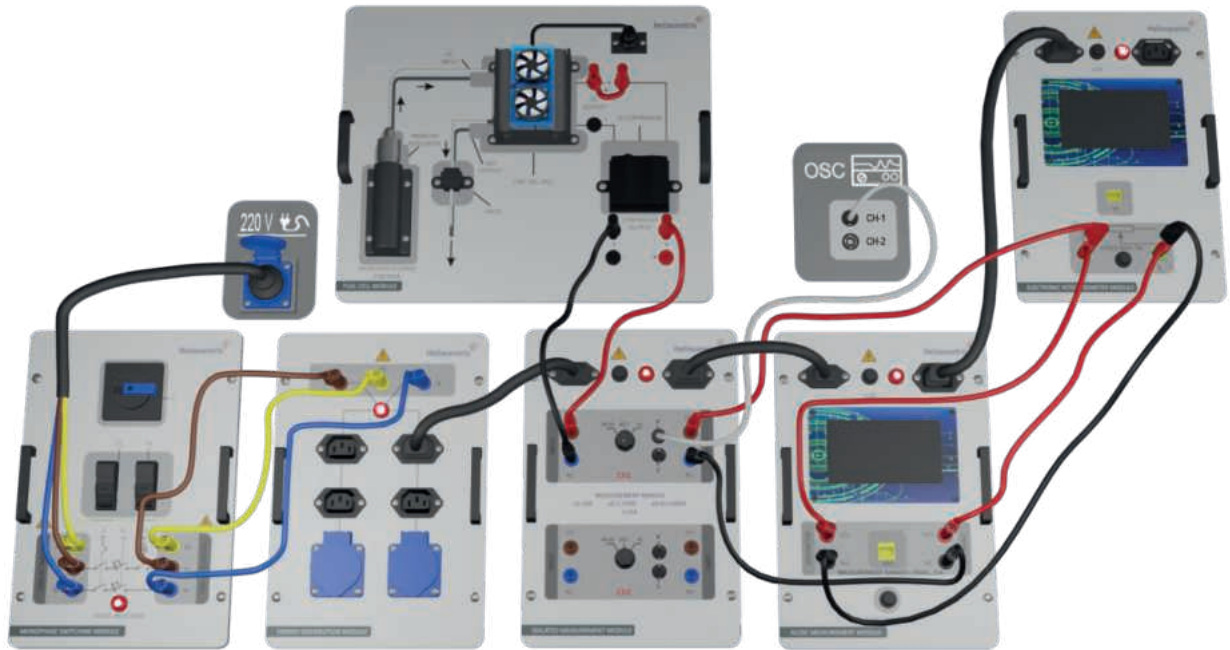

Figure-84. Installation Image of Examination of Hydrogen Fuel Cell DC/DC Converter Output Voltage Under Load with Oscilloscope
1. Connect the setup as illustrated in Figure-84. Make sure that the hydrogen battery is fully charged before use to avoid obtaining inaccurate results.
4. Start with a resistance setting of 1000Ω on the potentiometer. Gradually decrease the resistance according to the data specified in Table-60. As you adjust the potentiometer, record the voltage and current values on the AC/DC Measurement Module (MM).